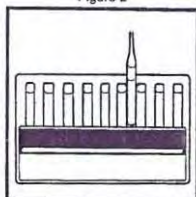

Figure 3
4. Hold the comparator in a nearly horizontal position while standing directly beneath a bright source of light. Place the CHEMet ampoule between the color standards moving it from left to right along the comparator until the best color match is found (fig 3). If the color of the CHEMet ampoule is between two color standards, a concentration estimate can be made.